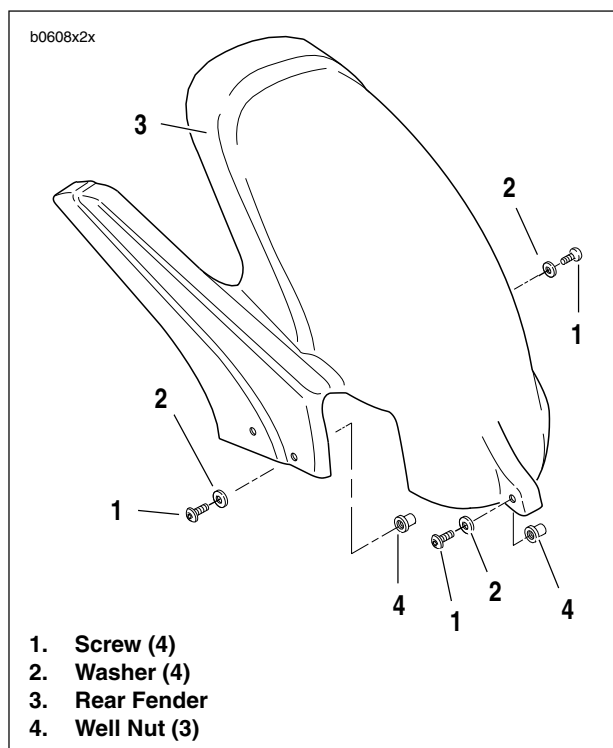

Figure 2-103. Rear Fender
2. See Figure 2-103. Remove two screws (1) and washers (2) from right side fender well nuts (4).
3. Remove screw (1) and washer (2) from front well nut (4).
4. Remove screw (1) washer (9) from brake line clamp on the left side of fender.
1. See Figure 2-103. Position fender over tire, making sure that the brake hose is on the outside of the fender as shown.